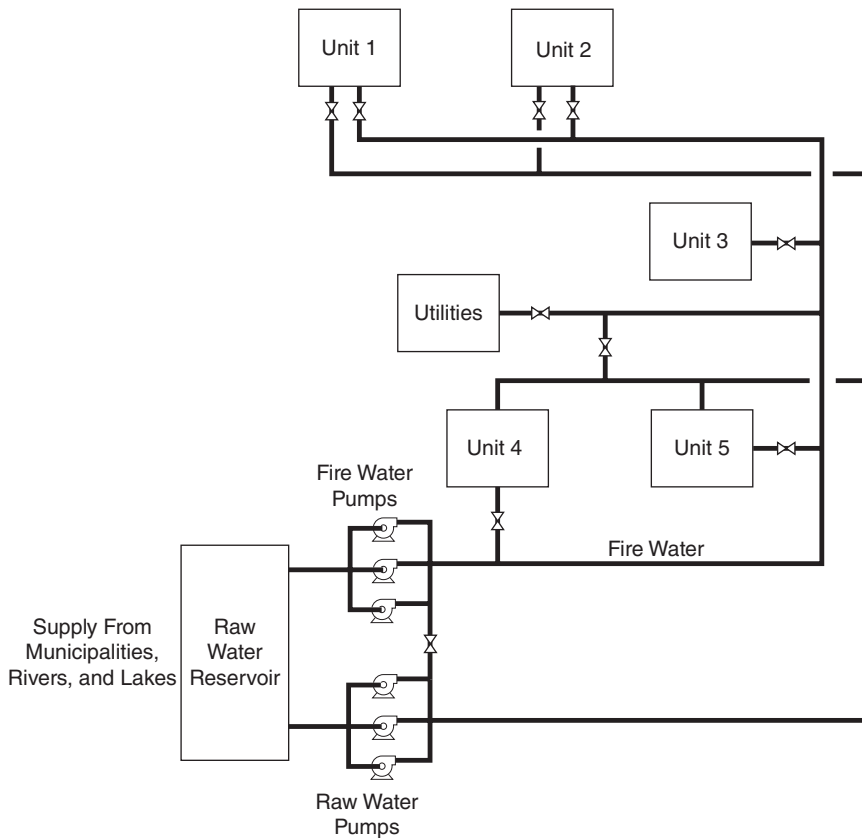

Figure 13.1
A storage reservoir, supplied from municipal sources or local rivers and lakes, normally supplies the plant systems that require raw water (RW), which is used for all purposes throughout the plant, and fire water (FW), which is used only in specific units such as boilers (which usually must be treated for purity). Raw water is supplied to the units in the plant by pumps. All pumps can be remotely started from a utility's unit control service. Normally, one or two pumps are in operation to maintain 125 to 150 psig pressure on the RW system. Figure 13.1 illustrates how the raw water system operates. All raw water lines are located above grade. Plants use raw water in utility station water hoses, process unit fire water (FW) hose reels,